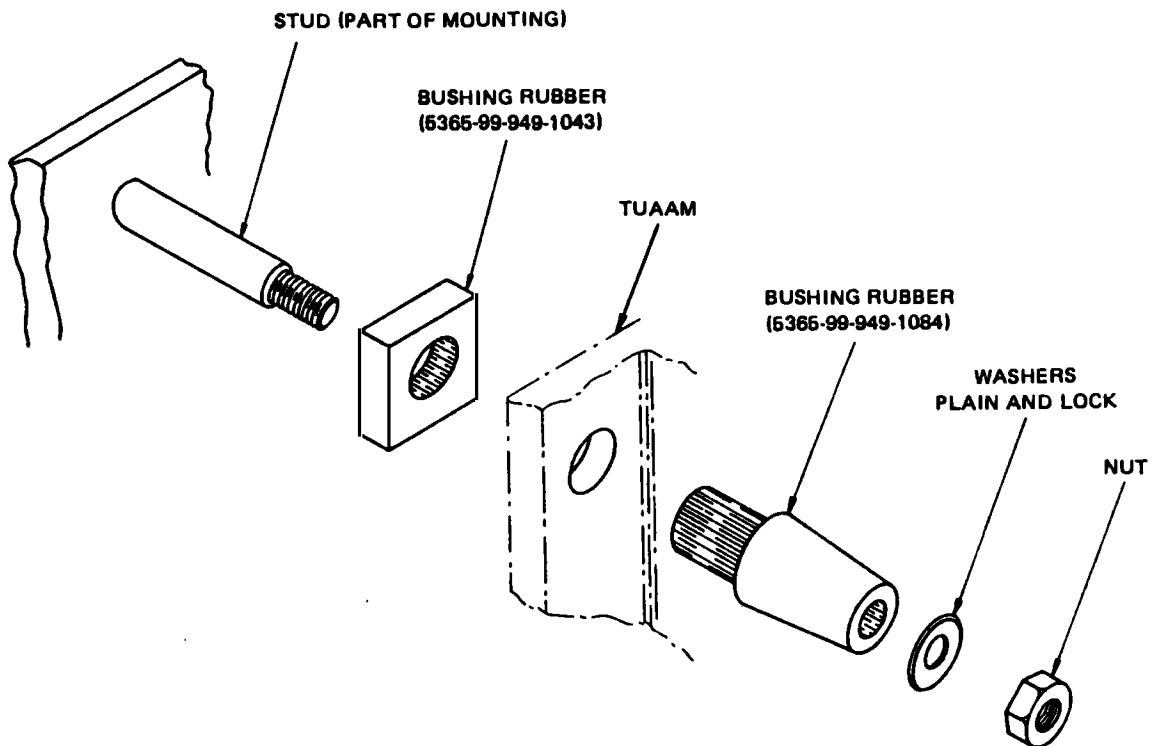

Fig 4 DCCU/TUAAM bushes
13.4.1 Locate the four fixing holes on the interior forward r.h.s. (See Cat 302, Chap 1, Fig 4).
13.5.1 Assemble the rubber bushings (6 and 7) on the TUAAM as detailed in Fig 4.